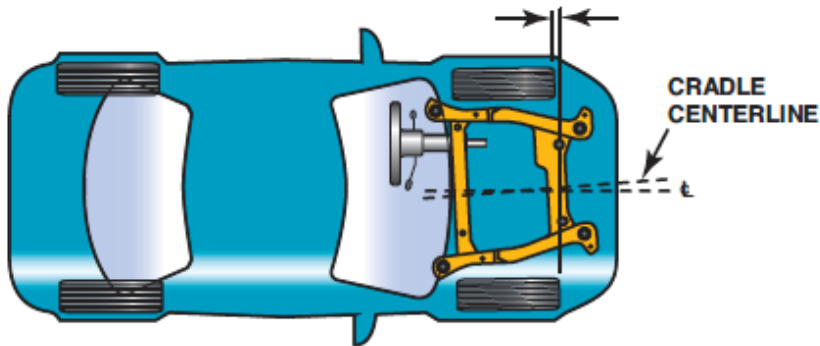

Figure 23. Incorrect cradle position.
- Cradle placement is not correct on a front-wheel-drive vehicle. This can be caused by incorrectly installing the cradle after a transmission, clutch, or engine replacement or service. Figure 23.